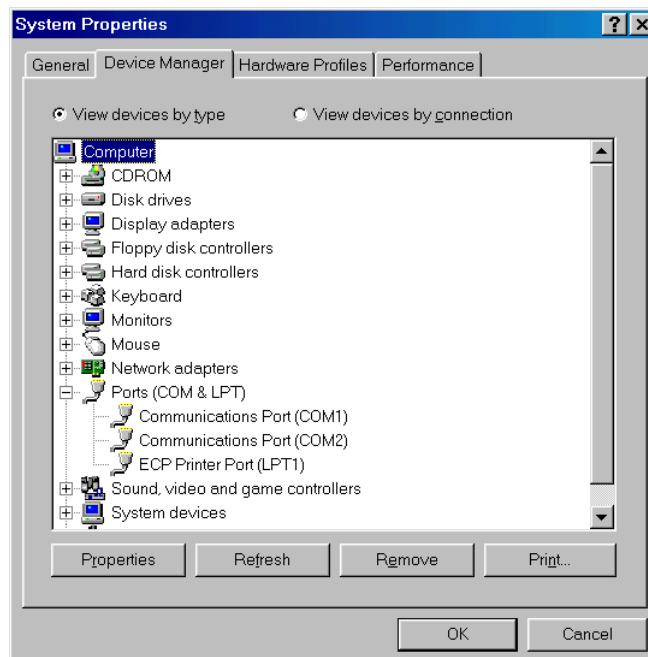

Figure C-6: Device Manager tab of System Properties dialog box
- 5 From the Ports list, choose the port, such as COM1 or COM2 (Figure C-6).